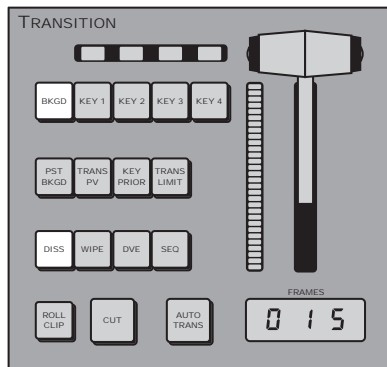

Figure 5.24 Background Transition — Transition Module (4-Keyer Shown)
3. Select **BKGD** as the next transition selection on the **Transition Module** (**Figure 5.24**). The **BKGD** button will be lit and the video source selected on the Preset bus will be shown on the Preview output.
4. Select the transition type that you want for this transition. In this example, a **Dissolve (DISS)** has been selected (**Figure 5.24**).